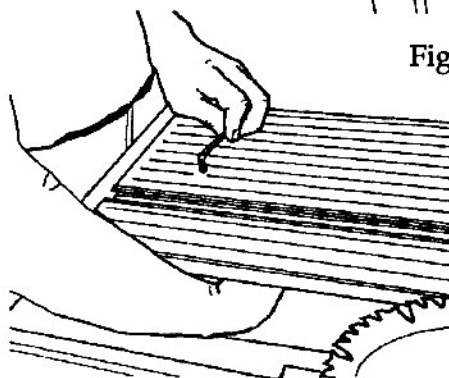

Fig. B-35
33. Reach underneath the 90° adjusting setscrew the setscrew located on the front left side of the table top, and loosen the jam nut with a 9/16" wrench, as shown in Fig. B-35. Adjust the setscrew with a 3/16" Allen wrench (provided) until it touches the carriage. Re-check the 90° stop with the precision square and re-adjust it, if necessary. Once adjusted properly, lock the jam nut with a 9/16" wrench.